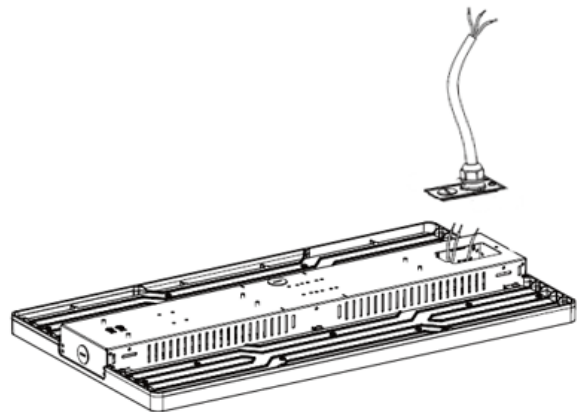

Fig. 2
2. Disconnect the power cable from the LED driver and remove the cover holding the power cord on the back of the luminaire (Fig. 2). Note that the power cord is held by a cable tie in the driver compartment. Loosen the screw holding the cable tie.